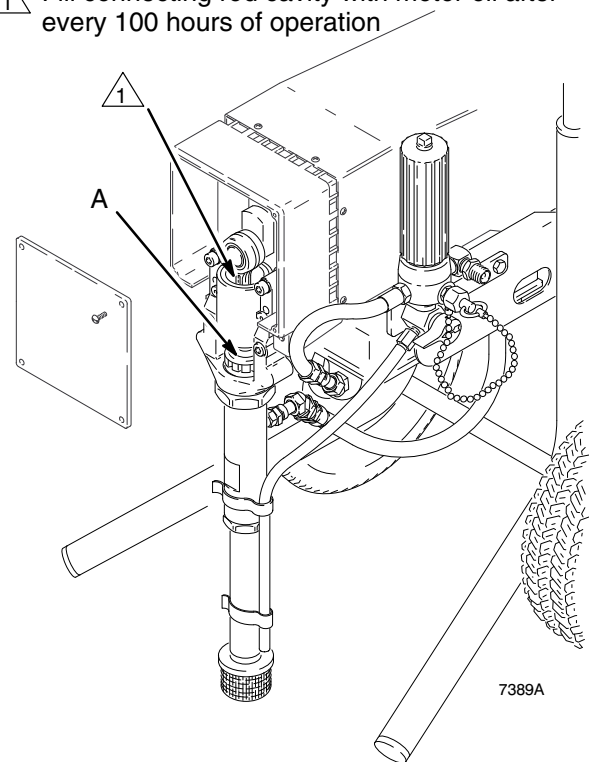

Fig. 6
1. Check packing nut/wet-cup daily. Relieve pressure. Keep packing nut/wet-cup (A) 1/3 full with TSL at all times to help prevent fluid buildup on piston rod and premature wear of packings. Tighten packing nut just enough to stop leakage. Overtightening may cause binding and excessive packing wear. Use screwdriver and light hammer to adjust nut. See Fig. 6.
3. Fill connecting rod cavity with motor oil every 100 hours of operation. Relieve pressure. Remove front cover. See Fig. 6.